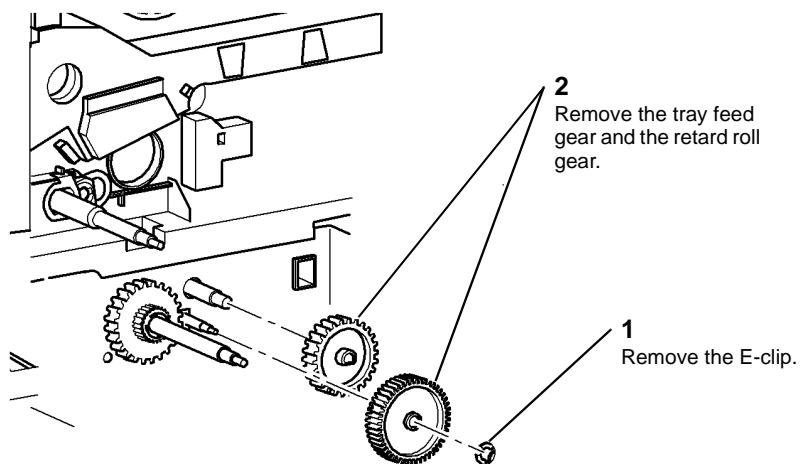

Figure 1 Gear removal
5. Remove the tray feed gear and the retard roll gear, Figure 1.